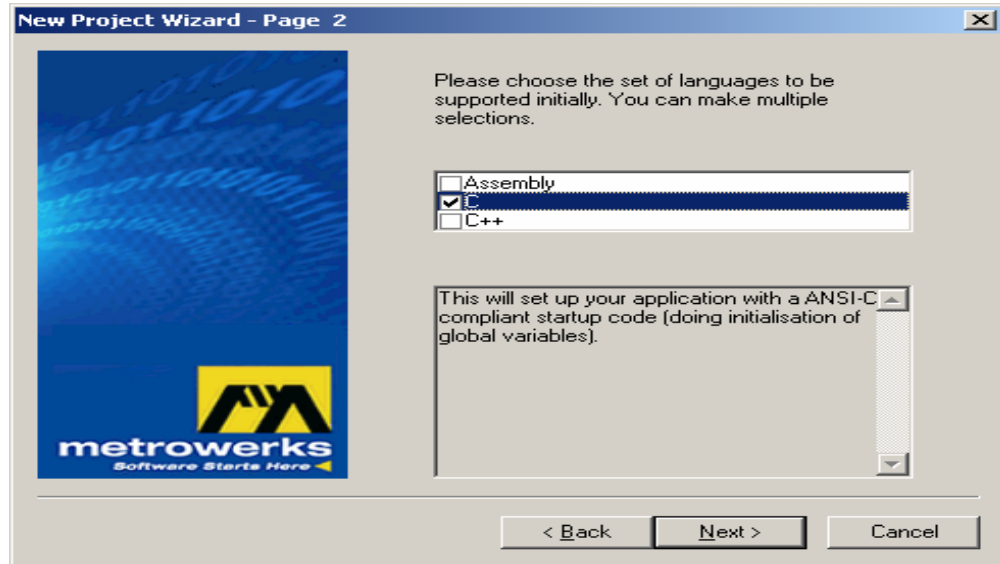

Figure 4
f. **Figure 4**-Check off C and click **Next**